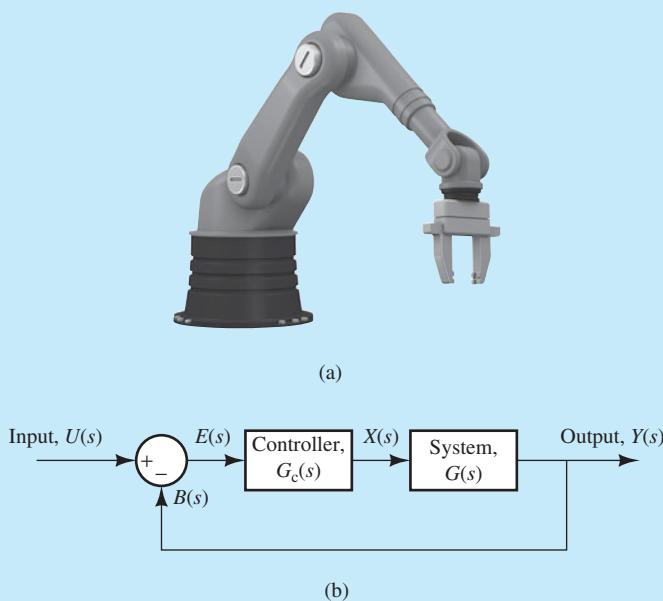

FIGURE 11.22 (a) Robotic arm. (Used with permission from Nuno Andre/Shutterstock.com.) (b) Block diagram of the robotic arm mechanical system.
An operational amplifier is used to design controllers for mechanical applications. Assume that the transfer function of a robotic arm is $G(s) = 1/(s^2 + 1)$. The robotic arm's transfer function is an unstable system; therefore, a proportional-integral-derivative (PID) controller is added as depicted in Figure 11.22.
- b.** Define the $E(s)$, $X(s)$, and $B(s)$ as shown in Figure 11.22 with $U(s)$ as the input and $Y(s)$ as the output of the system.
From Figure 11.22, $E(s) = U(s) - B(s)$. In addition: